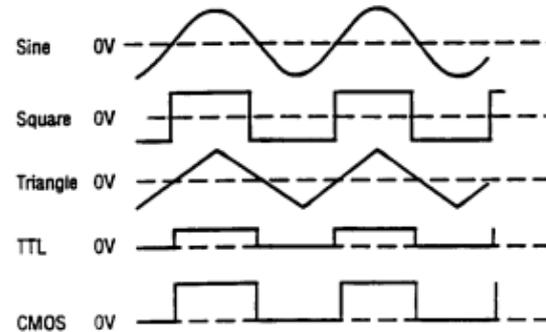

Figure 2. Output Waveform and Phase Relationship
1. Initially, verify that the **DUTY CYCLE** (17), **CMOS LEVEL** (15), **DC OFFSET** (14), **-20 dB** (11), and **SWEEP INT/EXT** (12) switches are in the OUT position (released). This will produce a symmetrical waveform unaffected by the sweep generator and other controls.
2. Plug the unit into an appropriate power source and turn it on by engaging the **POWER** switch (1).
3. Select the desired waveform (**SINE**, **SQUARE**, or **TRIANGLE**) by engaging one of the **FUNCTION** switches (3). Phase relationships of the waveforms are shown in Fig. 2.
4. Select the frequency of the waveform by depressing one of the **RANGE** switches (2). The output frequency is displayed, along with the appropriate measurement units, **KHz** or **Hz** (23), on the LED display.
5. Rotate the **COARSE** (20) frequency control to quickly set the output frequency to the approximate desired value. The **FINE** (19) frequency control can then be used to easily set the output to the specific desired value. The frequency selected is available at the **OUTPUT** jack (6). In addition, a digital signal, either TTL